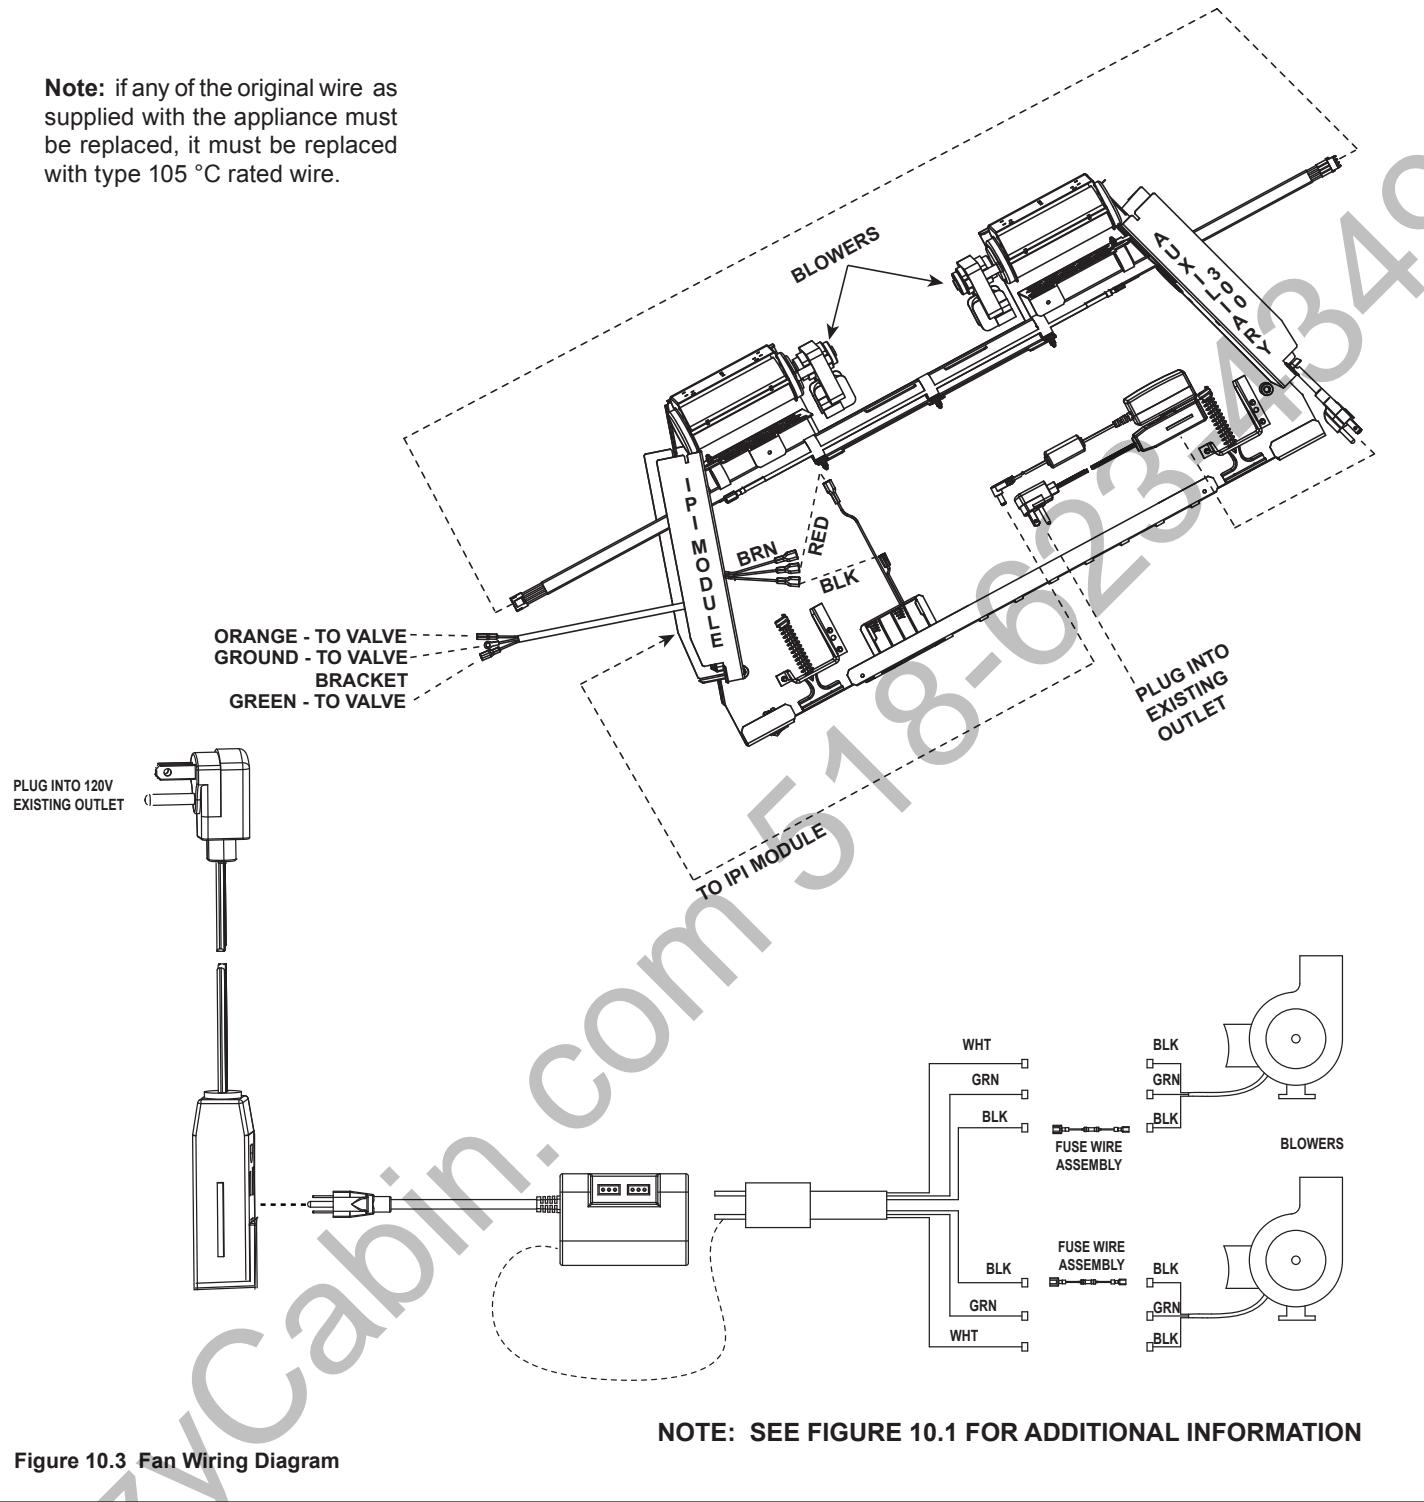

Figure 10.3 Fan Wiring Diagram
5. Connect black, white, and green wires from blower wire assembly to each blower. See Figure 10.3.
6. Insert plug from blower cable assembly into AUX300 receptacle. See Figure 10.3.
8. Position the right and left blower assembly into the rear opening. Take care to ensure that blower housing or its motor is clear of any adjacent metal. This will ensure that no undue noise occurs during blower operation. See Figure 10.3.